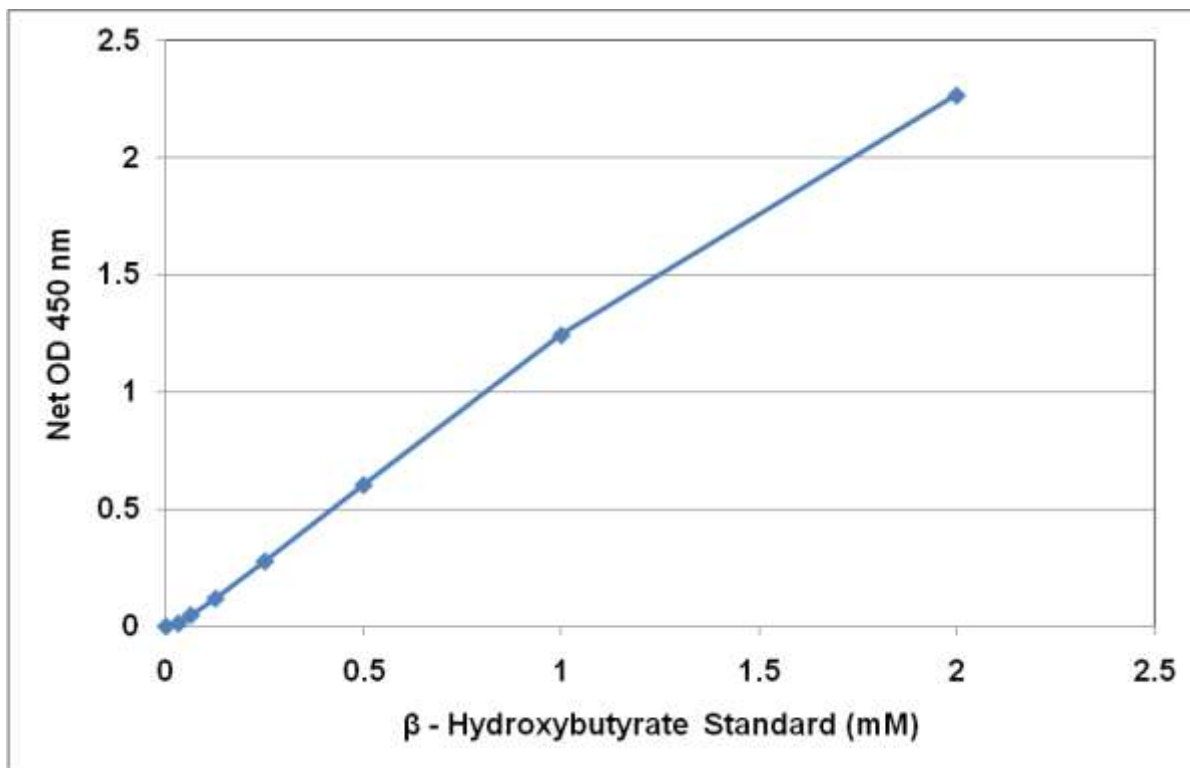

Figure 2: β -Hydroxybutyrate Standard Curve.
2. Plot the corrected absorbance for the β-Hydroxybutyrate standards against the final concentration of the standards from Table 1 to determine the best slope (mM⁻¹). See Figure 2 for an example standard curve.